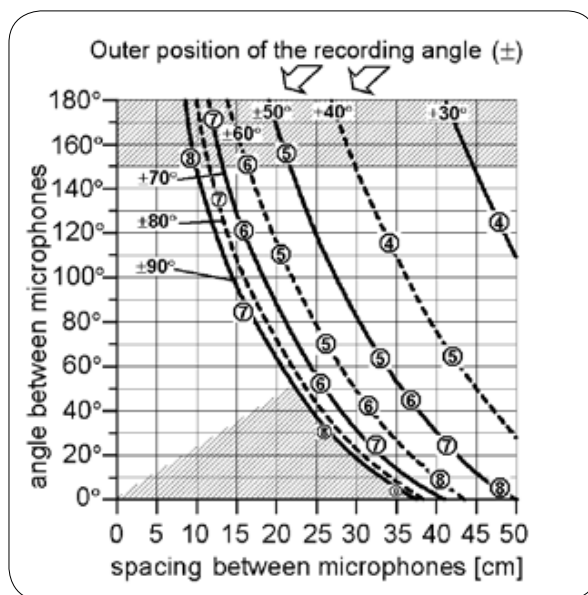

Fig. 21
* Since the 4041 Large Diaphragm Microphone is not completely omnidirectional at higher frequencies and has an on-axis upper midrange frequency lift, the perceived directionality will change compared to most other omni microphones. It calls for a little deviation from the graphs shown. For positioning circumstances, the 4041 can be considered as a wide cardioid microphone (fig. 21).